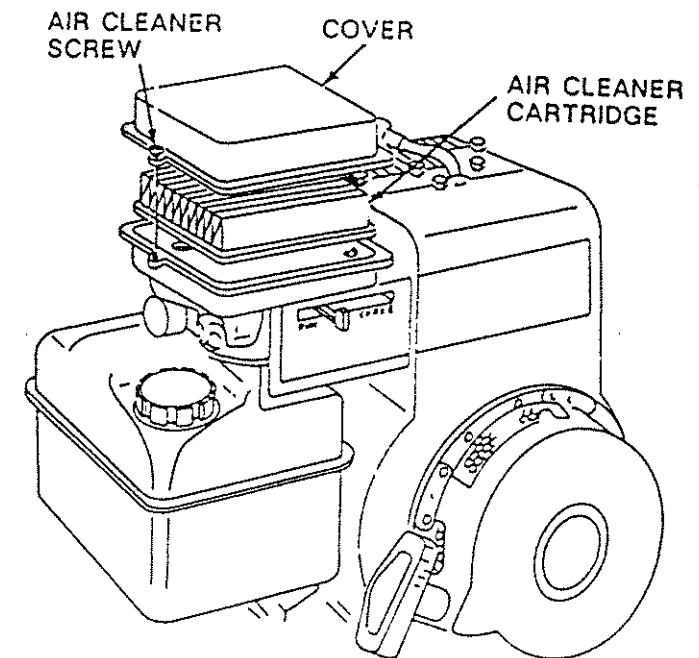

FIGURE 21
- Loosen Air Cleaner Screws, one on each side of cover (Fig. 21).
- Remove Air Cleaner Cover (Fig. 21).
- Carefully remove Air Cleaner Cartridge (Fig. 21).